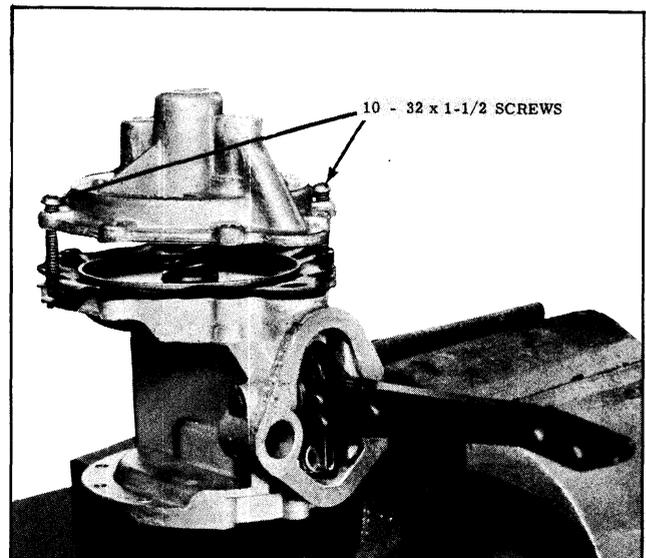

Fig. 8-77 Installing Vacuum Cover
12. With projection of vacuum cover placed toward rocker arm, install two 10-32 x  $1-1/2$ " screws in two opposite holes in cover flange. (See Fig. 8-77) Turn these long screws down alternately a few turns each, until regular screws can be installed. Insert regular screws